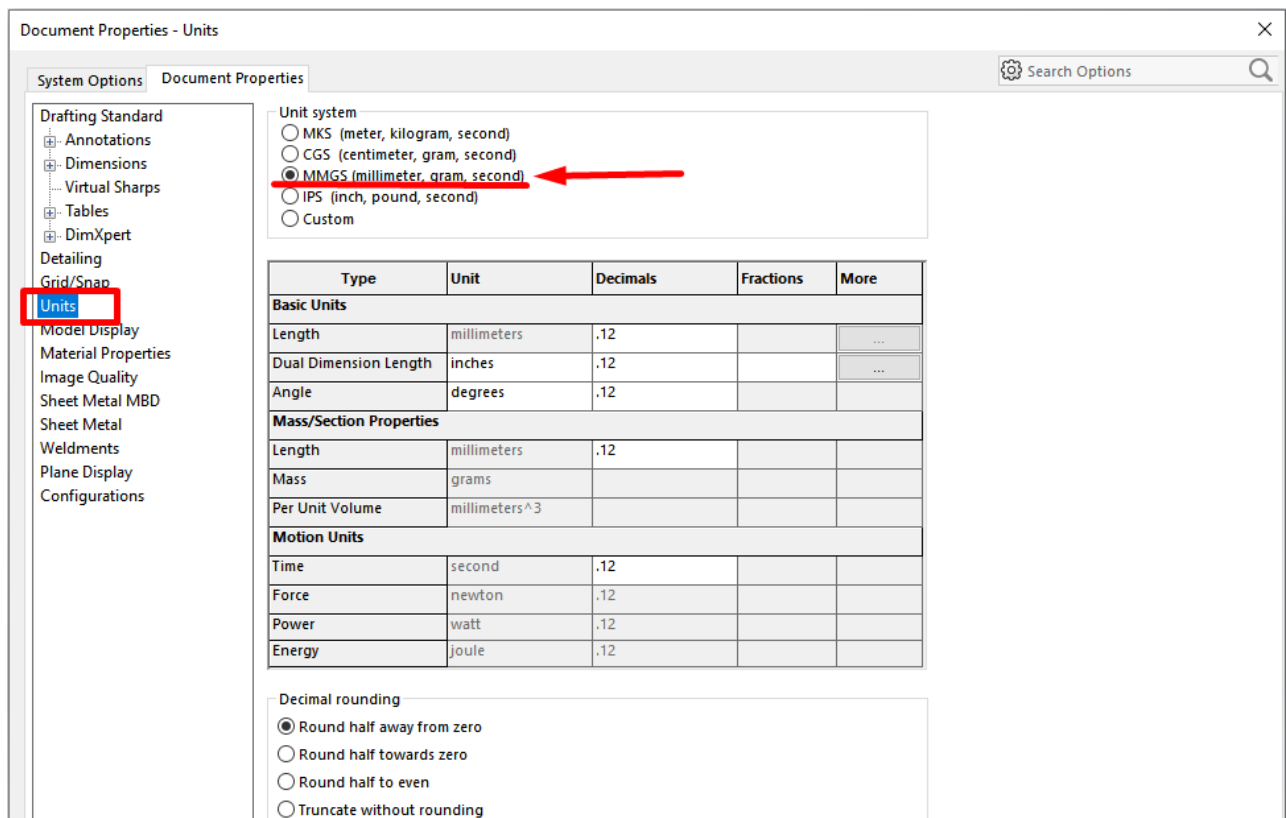

Fig. 2
2. Go to the **Options** → **Document menu. Properties** → **Units** (Options → Document Properties → Units) and set to millimeters (Fig. 2).